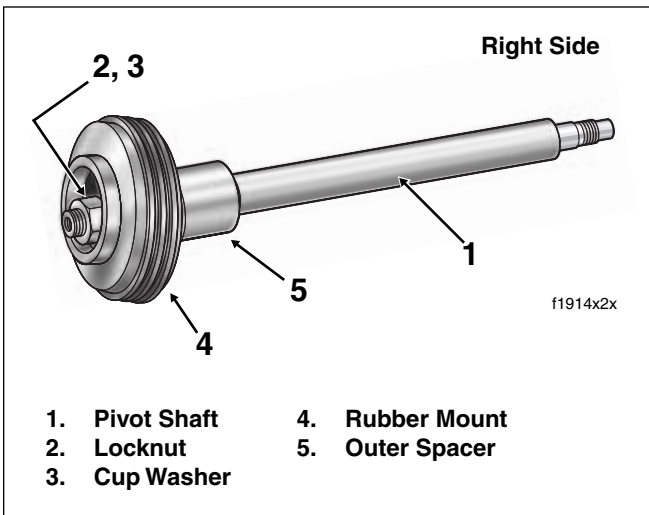

Figure 2-101. Pivot Shaft Assembly
19. Moving to left side, pull pivot shaft assembly (pivot shaft, locknut, cup washer, rubber mount and outer spacer) out of transmission mount and left side swingarm. See Figure 2-101.
1. Partially install locknut on right side of pivot shaft. Install second locknut on right side until it contacts the first. Holding first locknut to prevent rotation of shaft, remove left side locknut. See Figure 2-101.
4. The pivot shaft secures the rear swingarm and transmission to the motorcycle frame. See Figure 2-101. Install the pivot shaft as follows: